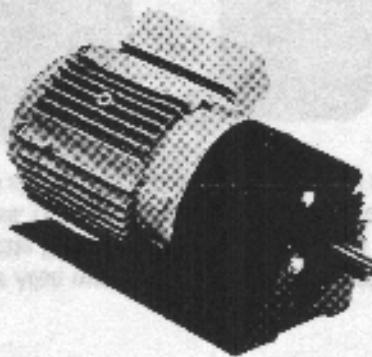

Figure 6
- A. Remove the two (2) long hex head bolts from the side of the Unimodule toward the ventilation holes.
- B. Mount the Unimodule on the Motor Mount so that the base of the Motor Mount is underneath the Unimodule and motor (Figure 6). A pilot diameter on the Unimodule mates with a pilot diameter on the Motor Mount.
- C. Secure the Motor Mount in place with two (2) longer mounting bolts (30 to 35 ft lbs.) and the two shorter bolts (18 to 22 ft. lbs.) all provided in the kit.
- A. Mount the Unimodule on the Motor Mount so that the base of the Motor Mount is underneath the Unimodule and motor (Figure 6). A pilot diameter on the Unimodule mates with a pilot diameter on the Motor Mount.
- B. Secure the Motor Mount to the Unimodule with three (3) bolts provided. (40 to 45 ft. lbs.)